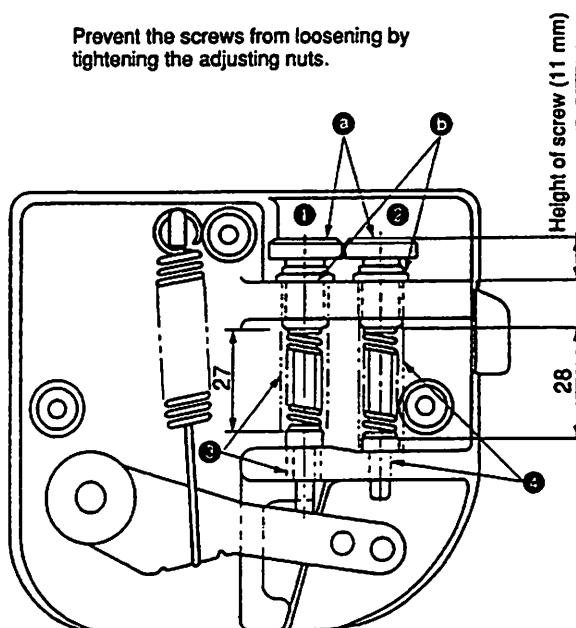

Fig. 2 Pedal sensor B asm.
2) Attach spring shaft B, spring B, adjusting screw and adjusting nut to side **2** shown in Fig. 2 following the procedure same as step **1**).
Adjust the height of spring which has been changed to adapt to the auto-lifter controlled by the pedal (PFL type). Adjust the length of the spring located on side **1**, in Fig. 2, to 27 mm and that of the spring located on side **2** to 28 mm using pressure adjusting screws **a**. After the adjustment, tighten pressure adjusting nuts **b** to prevent pressure adjusting screw **a** from loosening.